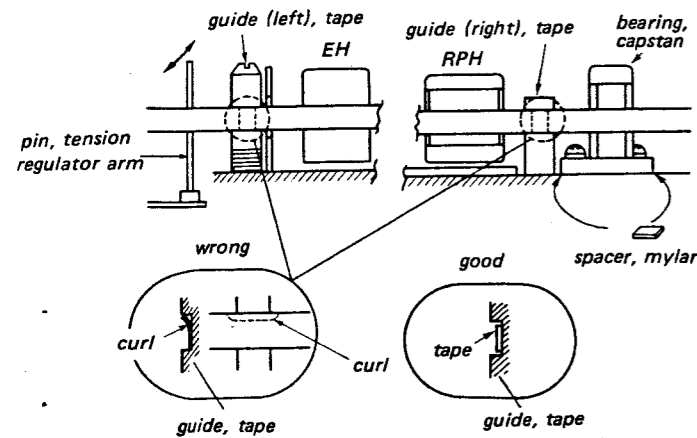

Fig. 9-4 Tape curl adjustment
- (1) Set the machine at 4.8 cm/s (1 7/8 ips) tape speed.
- (2) Be sure that the tape comes in contact with the two tape guides exactly as shown in Fig. 9-4.